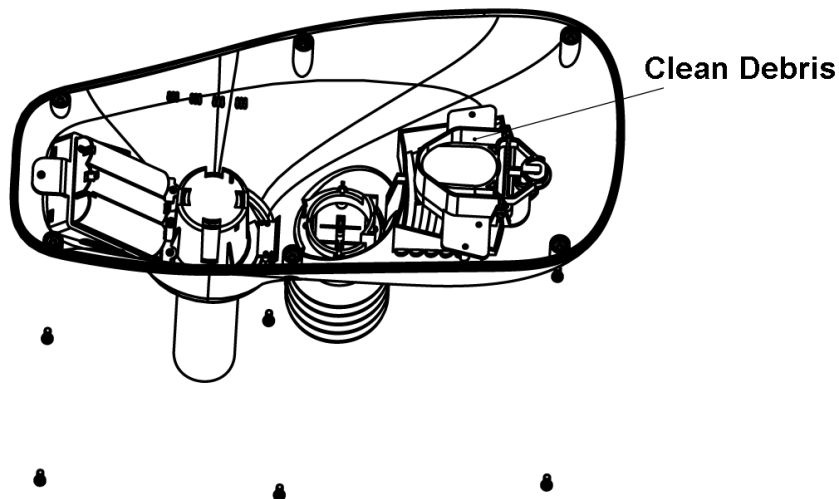

Figure 33
3. Clean any debris and spider webs, as shown in Figure 33.